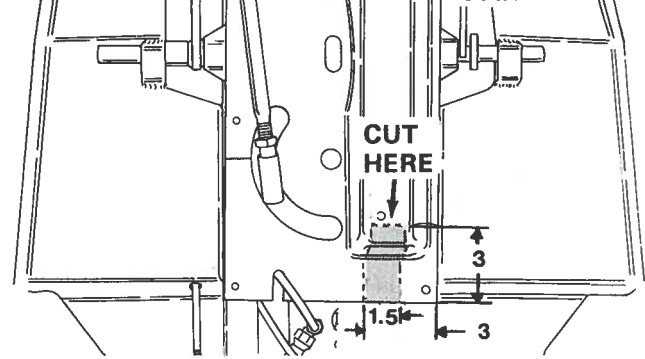

FIGURE 9
11. Cut away the left rear end of the belly pan. This is done to provide clearance for the hoses. Refer to Figure 9.